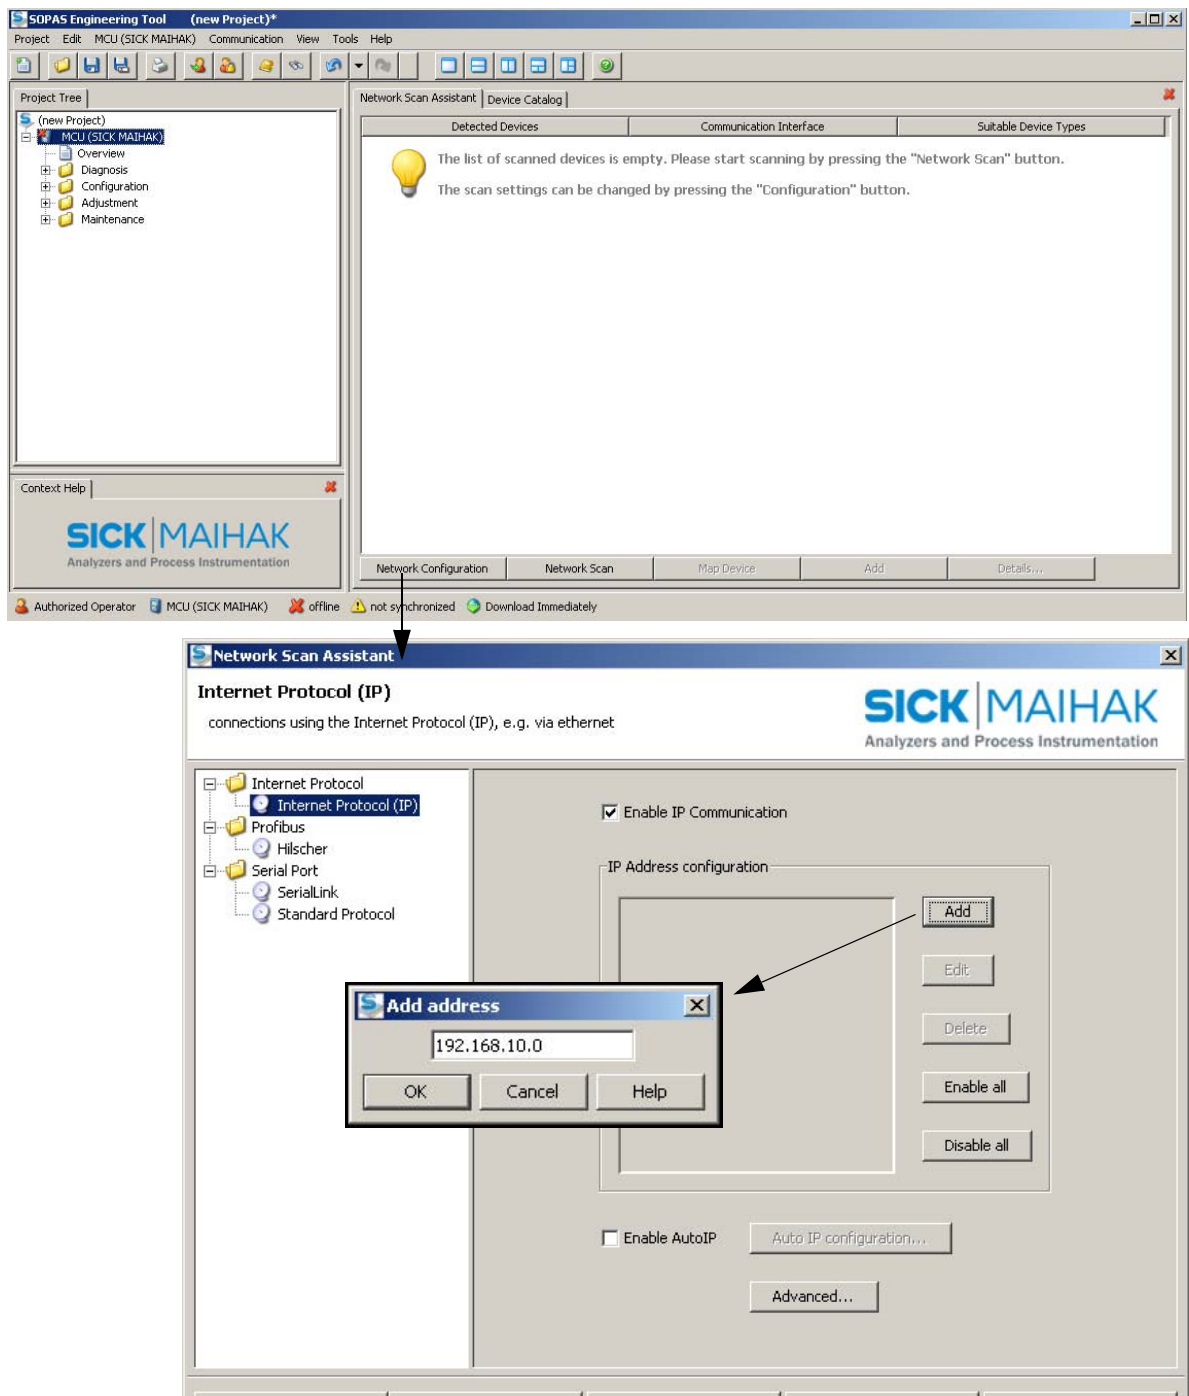

Fig. 4.32: IP address specification (example)
- ▶ In the subpage “Internet Protocol / Internet Protocol (IP)”, click the “Advanced” button (see Fig. 4.32).
- ▶ Click the “Network Scan” button (see Fig. 4.32).